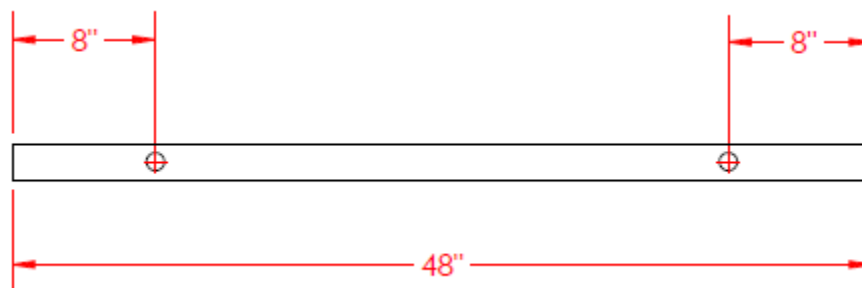

Figure 1: 2'x2', 2'x4' and 4'x4' Baffles
- 1) For vertical application, depending on the size of the linear baffle, each sheet should be equipped with 2 2-7/8" long corkscrew hangers for 2'x2', 2'x4', 4'x4', 3 corkscrew hangers for 4'x6' baffles, and 4 corkscrew hangers for 4'x8' baffles. Maximum distance between hangers should be no greater than 36". Use the diagram shown in Figure 1 and 2 below as a guide.